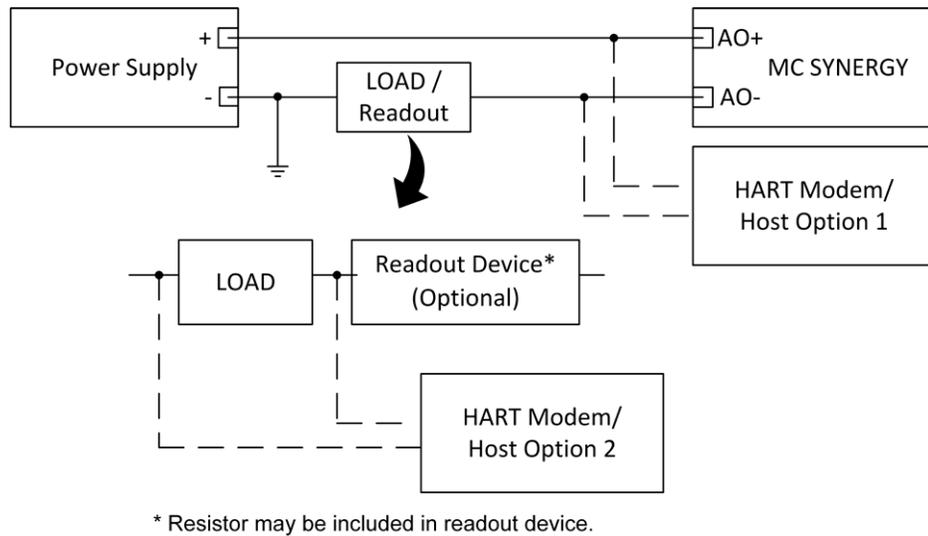
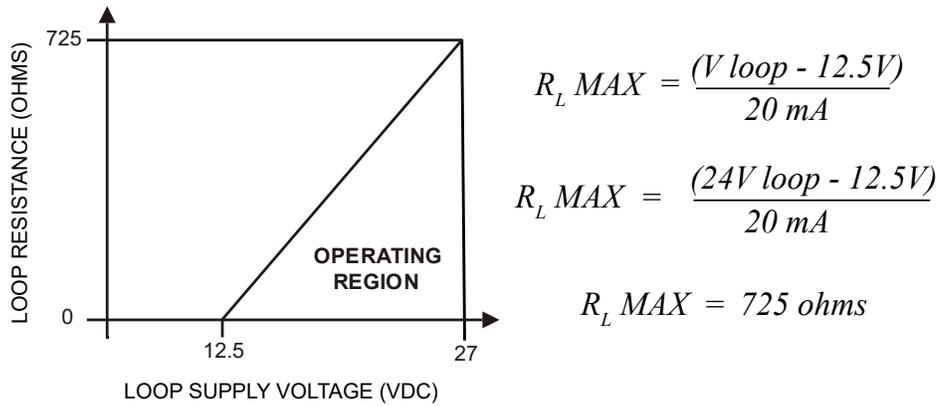

Figure 2.17—HART point-to-point wiring
Figure 2.19—Loop supply vs load resistance
**HART Point-To-Point** (Figure 2.17, page 47) requires a two-conductor cable connected to an 12.5 to 27 VDC power supply (voltage required is dependent on loop resistance) and a current readout device and HART Modem located in the remote location. In Figure 2.19, page 48, the mathematical relationship between loop voltage and load resistance is given. For example, if a power supply voltage of 24 volts is available to power the current loop, the maximum load resistance would be 800 ohms. In addition to the HART Modem, a handheld HART terminal may be connected to read the HART messages.